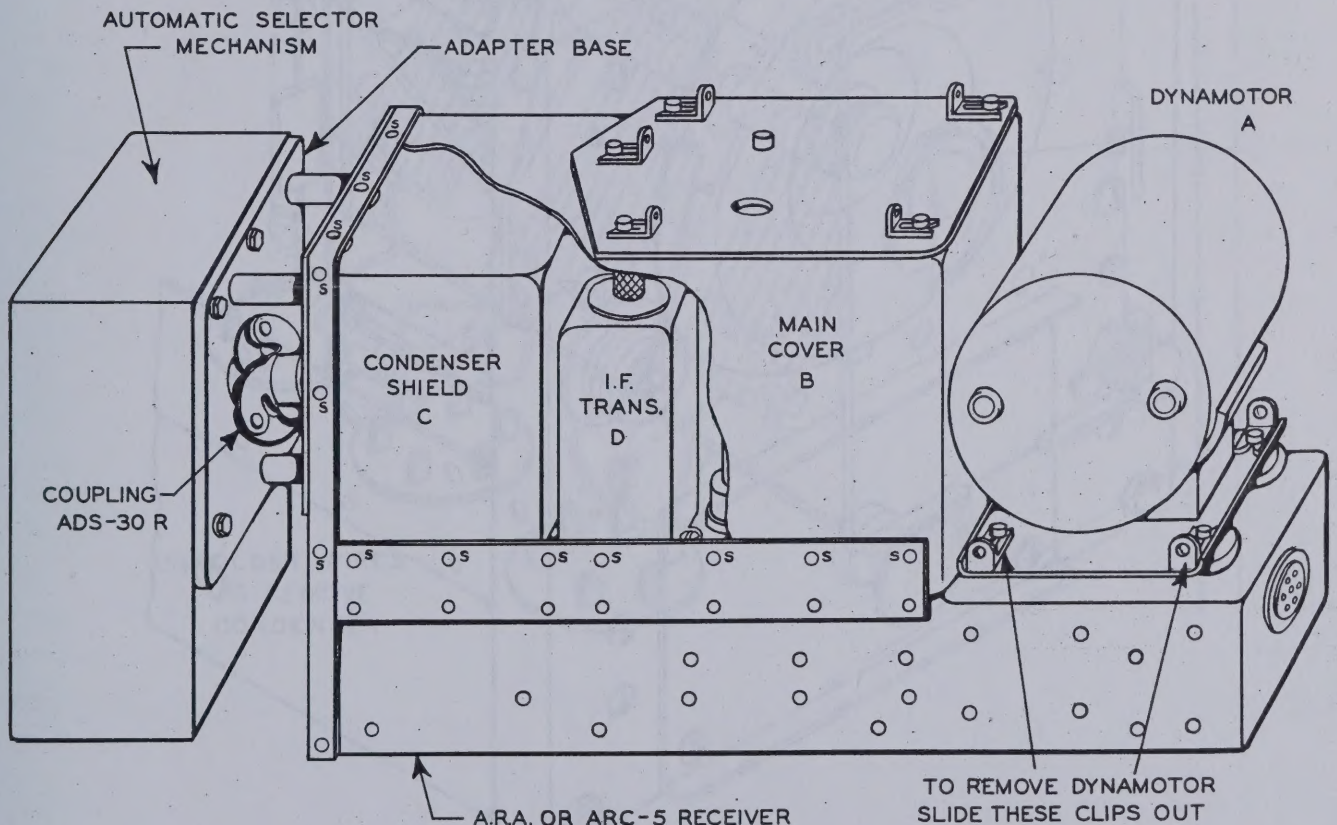

Figure 5 — Receiver with Automatic Tuner
2. (FIG. 5) Remove dynamotor (A) and the main cover (B) by loosening screws (S) on top and both sides of the cover.
3. (FIG. 5) Remove condenser shield (C), tubes and IF transformers (D).